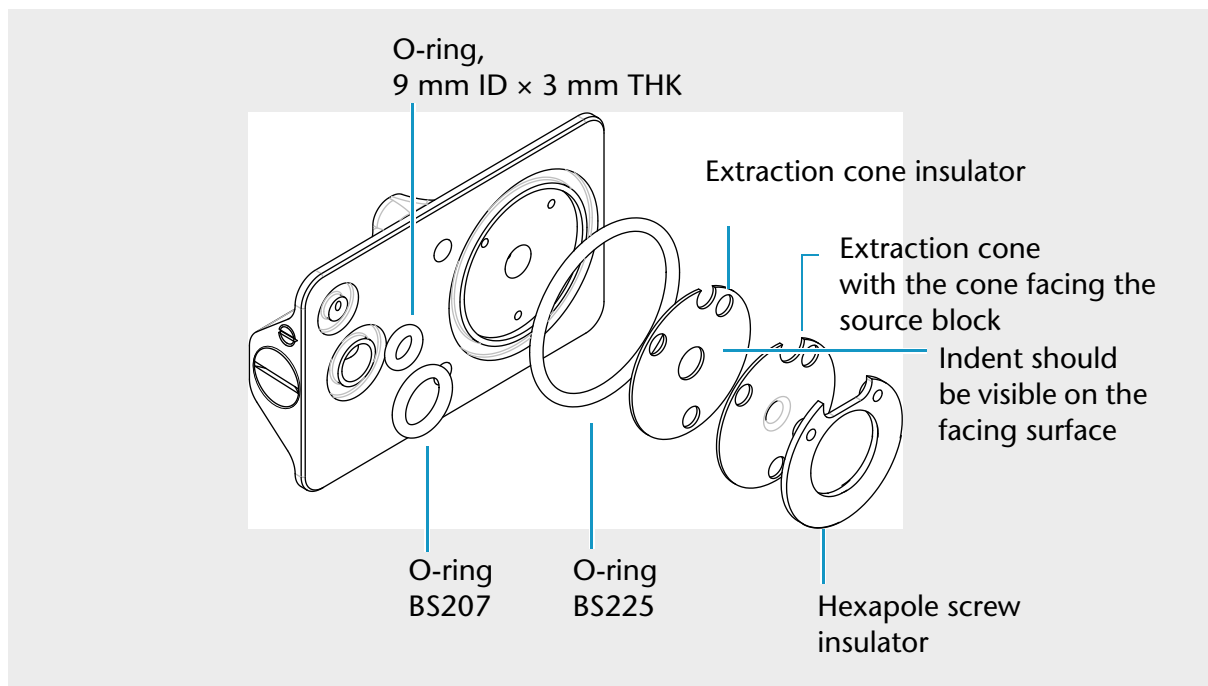

Fig. 69 Exploded view of the source block and its components
- ▶ Remove the hexapole screw insulator, extraction cone, and extraction cone insulator. See Figure 69.
1. Install the three O-rings (see Figure 69 on page 98):
5. Install the hexapole screw insulator (part number A66557). Be certain that this part is free from contamination, particularly from metal filings that might result from the action of the hexapole screws on the source block. See Figure 69 on page 98.